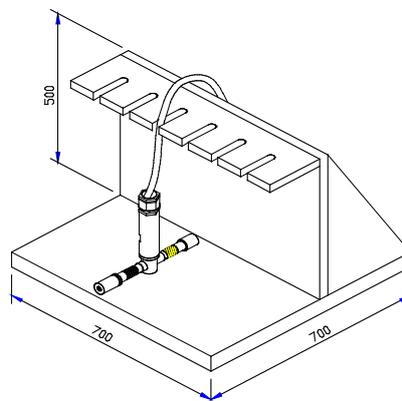

Figure 4.1
- 4.21 Fixture for jointing upto six strain gages (refer figure 4.1)